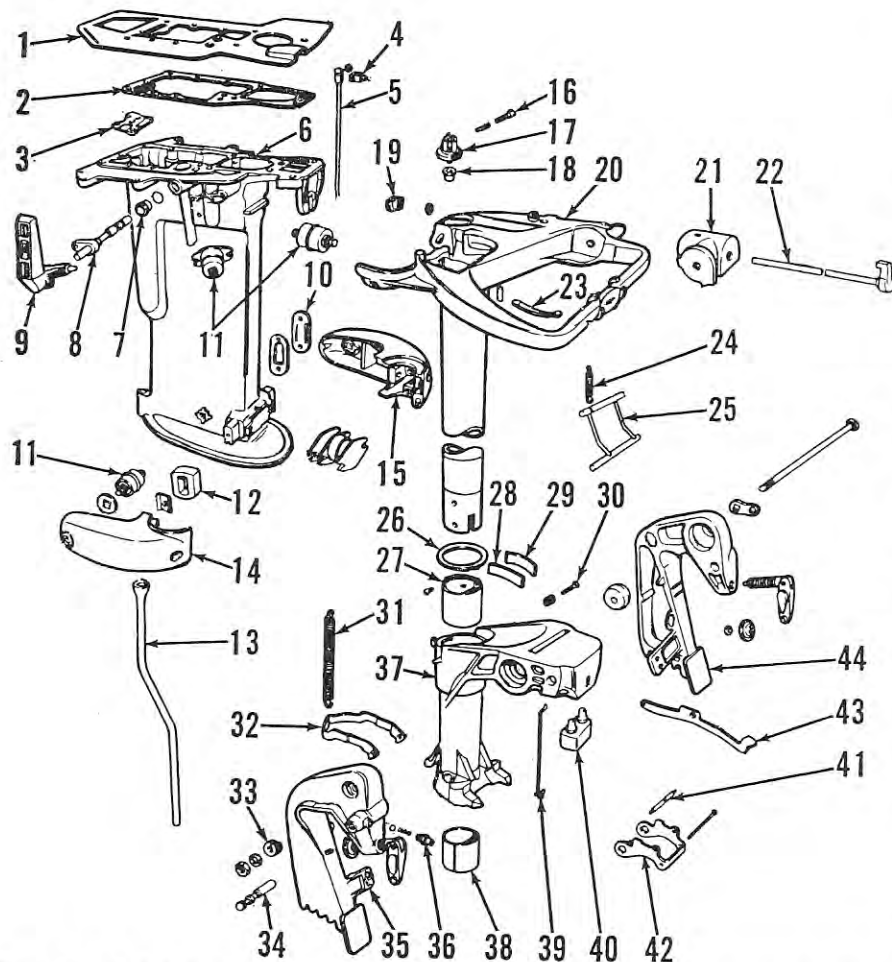

Fig. G98—Exploded view of stern bracket, exhaust housing, drive shaft housing and associated parts used on late models. Early models are similar.
To separate gear case from the exhaust and drive shaft housing, it is necessary to remove cover (10—Fig. G98) and loosen the clamp screw in shift rod bracket (4—
The shifting linkage must be adjusted to provide full engagement of the shifter collar with the forward and reverse gears. With the motor not running, set the shift lever in "Neutral" and the speed control lever at "Slow." Turn the propeller by hand while moving the shift lever (9—Fig. G98) slowly, first to the forward, then to the reverse positions. Note and mark position of shift lever with relation to shroud, at point of gear contact. "Neutral" detent position should be midway between points of contact in "forward" and "reverse" gears. If it is not, loosen the clamping screw securing shift lever (9) to shaft (8), and rotate shaft until travel is equalized.
Steering tension can be adjusted by turning screw (30—Fig. G98) in or out until motor is easy to steer but will maintain a set course.